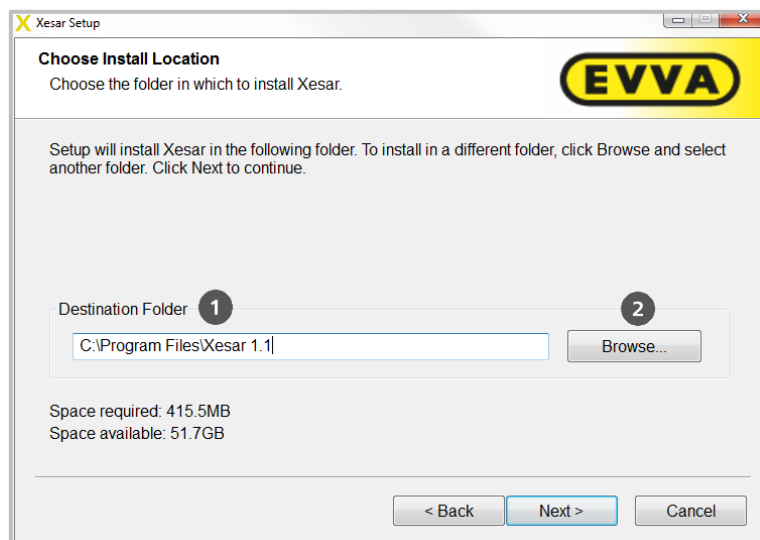

Figure 35: Xesar installation — selecting the designated directory
By default the Xesar software is installed in a directory on the system drive ❶ (Figure 35: Xesar installation — selecting the designated directory). Click Browse ❷ (Figure 35: Xesar installation — selecting the designated directory) and select a different directory if you would like to install the Xesar software in a different directory. Then click **Continue**.